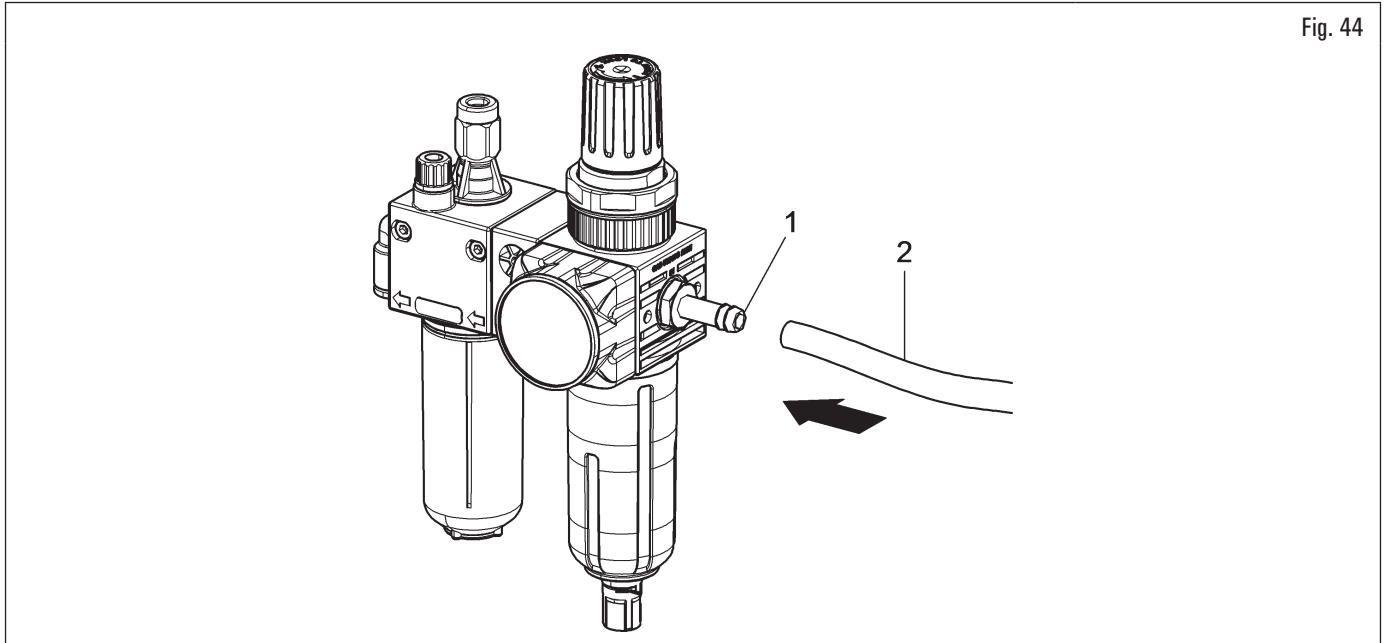

Fig. 44
Connect the mains pneumatic supply through the fitting (Fig. 44 ref. 1) placed on equipment filter assembly. The pressurized hose (Fig. 44 ref. 2) coming from the mains must have a minimum inner diameter of 10 mm (3/8") and a minimum outer diameter of 19 mm (3/4") (see Fig. 44) to have sufficient flow rate (see Fig. 44).